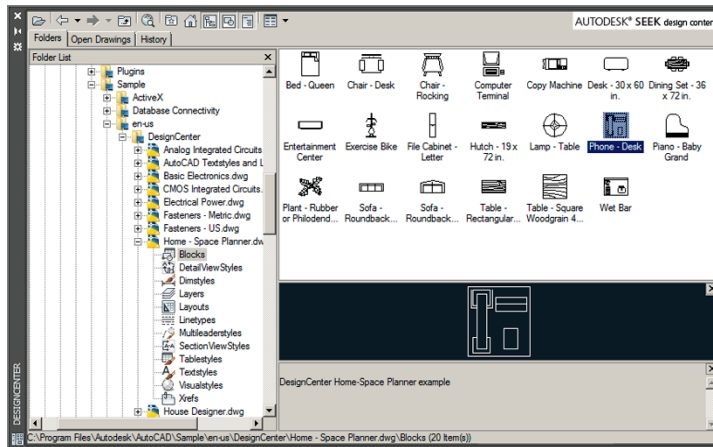

FIGURE 9.20 Inserting content from Autodesk DesignCenter into a drawing
10. Type ADC and press Enter to launch Autodesk's DesignCenter, an older interface for accessing global blocks. Navigate to the folder shown at the bottom of Figure 9.20 and expand the Home – Space Planner.dwg sample file. Select the Blocks node in the folder tree to display this drawing's block files. Drag and drop the Phone –Desk global block from this drawing into the current drawing and then move it onto the Receptionist's desk.